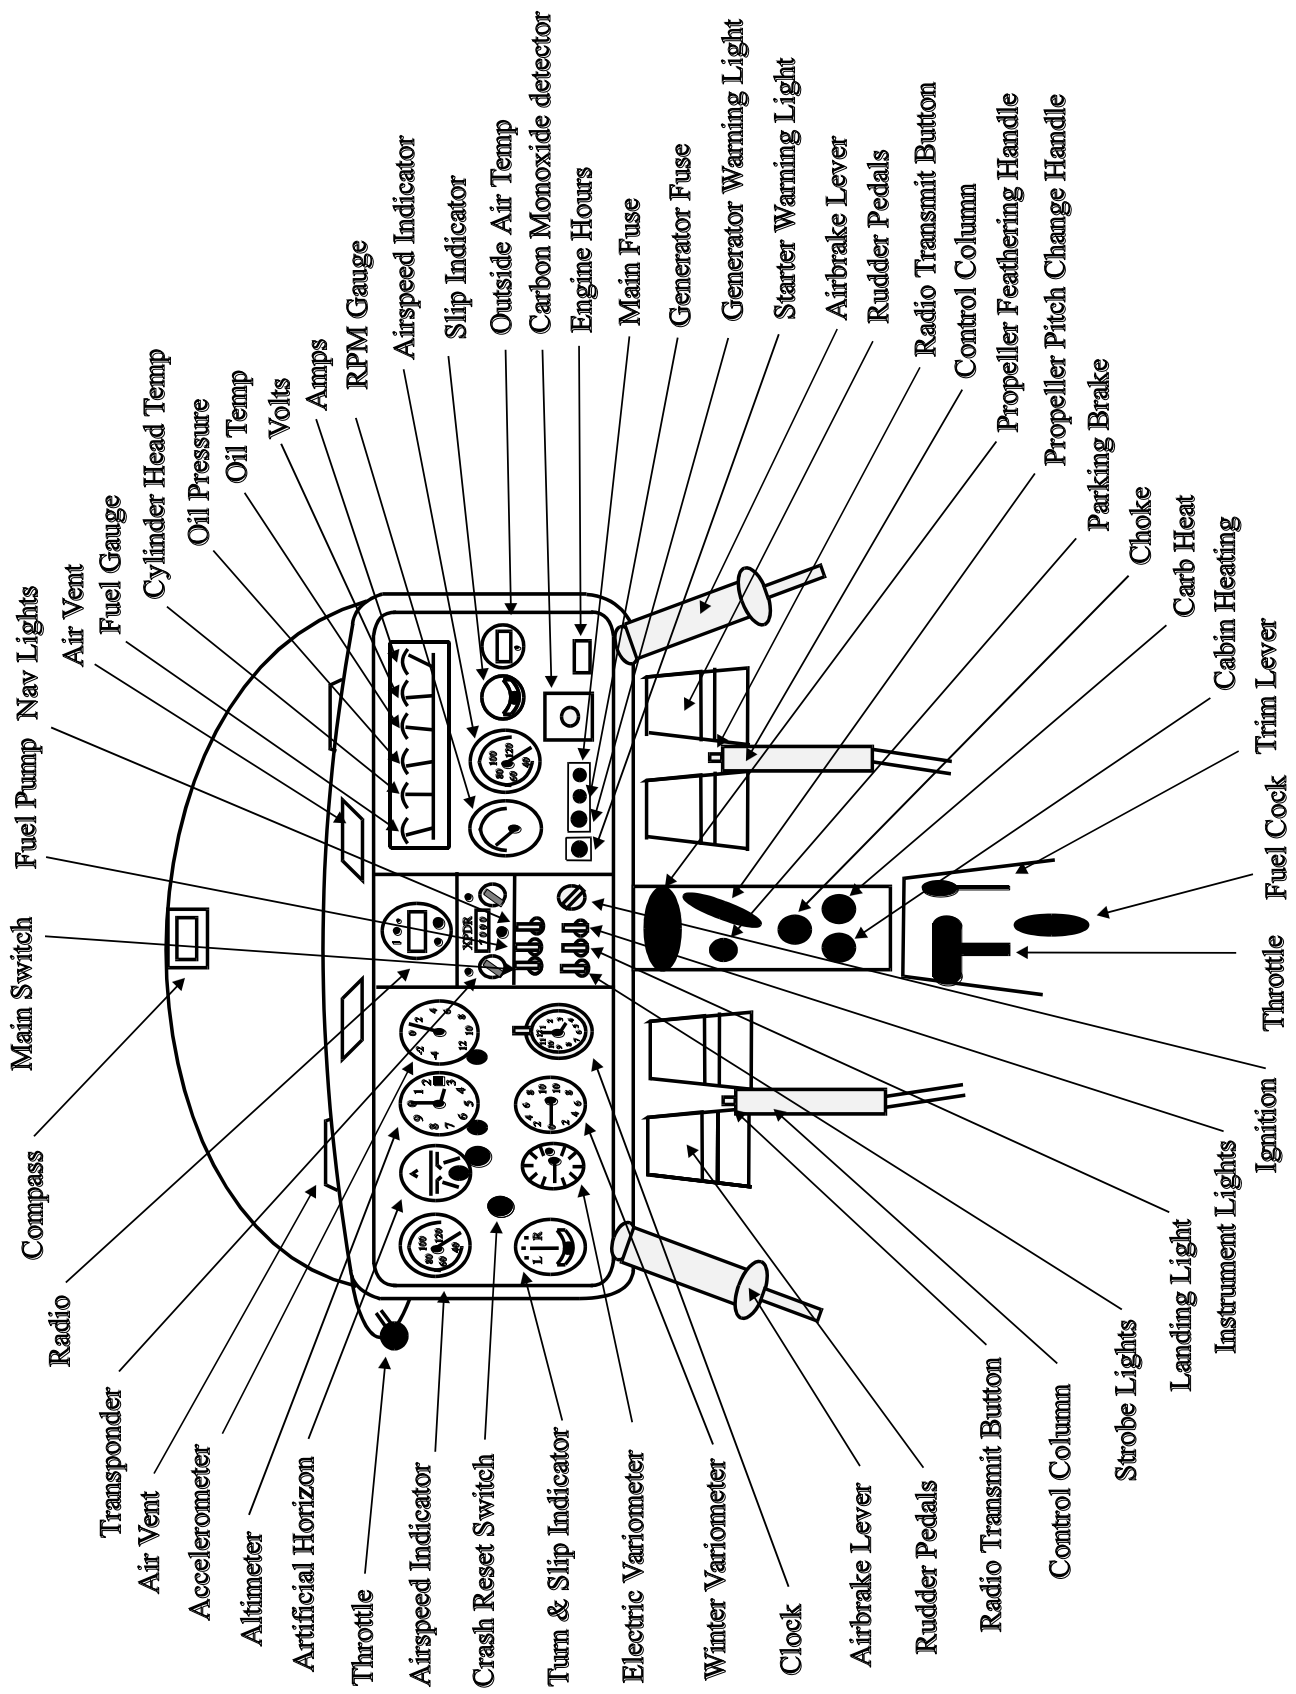

Fig 1. Cockpit Layout Vigilant T Mk 1
4. **Cockpit layout.** The controls and instruments are shown in Fig 1 (overleaf).